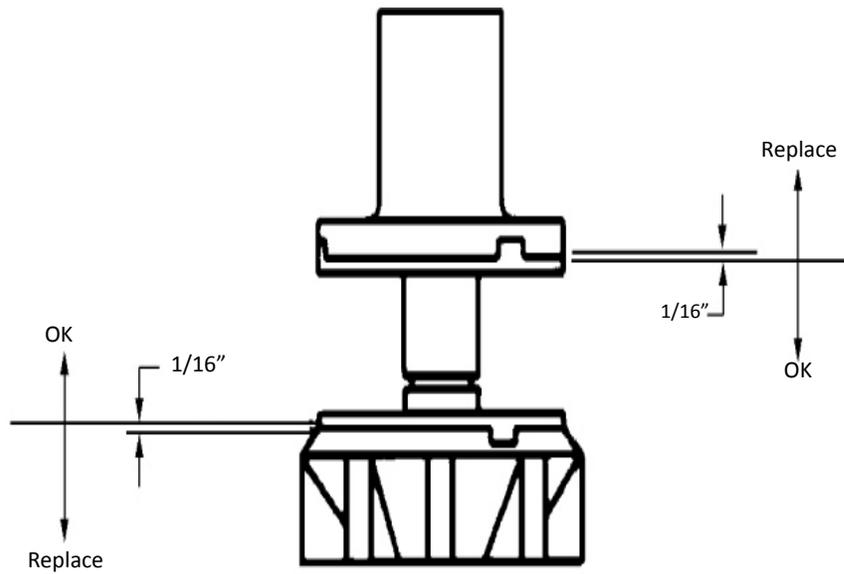

Figure 4. Upper Nut And Bearing Assembly
7. Check white upper bearings on auger assembly. If bearings are less than 1/16" thick, replace. See Figure 4